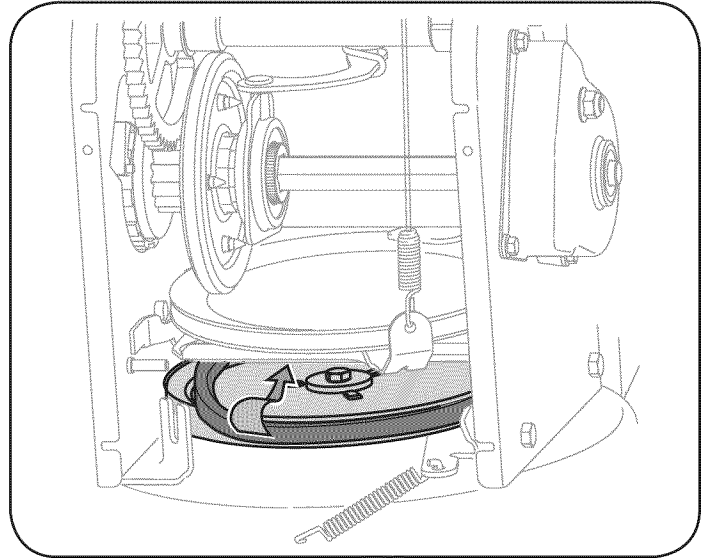

Figure 32
7. Remove the belt from around the auger pulley, and slip the belt between the support bracket and the auger pulley. See Figure 32.